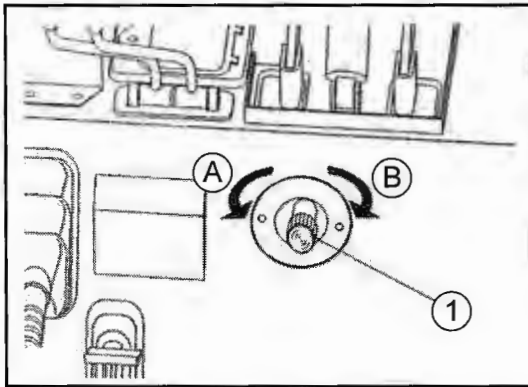

Fig. 22-1 - Hydraulic Lift Speed Control
To lower the implement fast, turn the hydraulic lift speed control knob (1) in a clockwise direction (B) for high speed. (See Fig. 22-1).